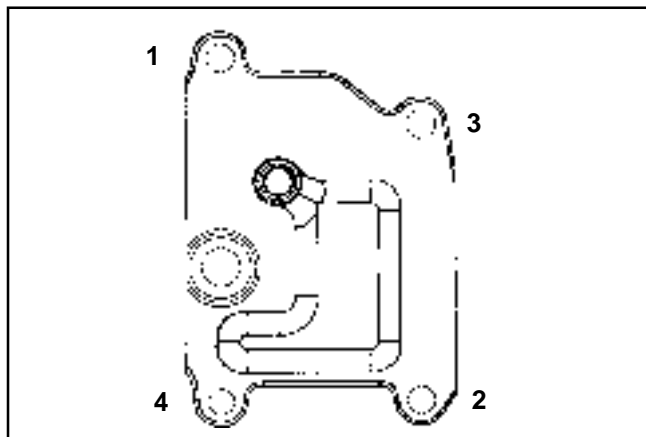

Figure 11-41. Breather Cover Fastener Torque Sequence.
3. Torque the screws to **7.3 N·m (65 in. lb.)** in the sequence shown. See Figure 11-41.